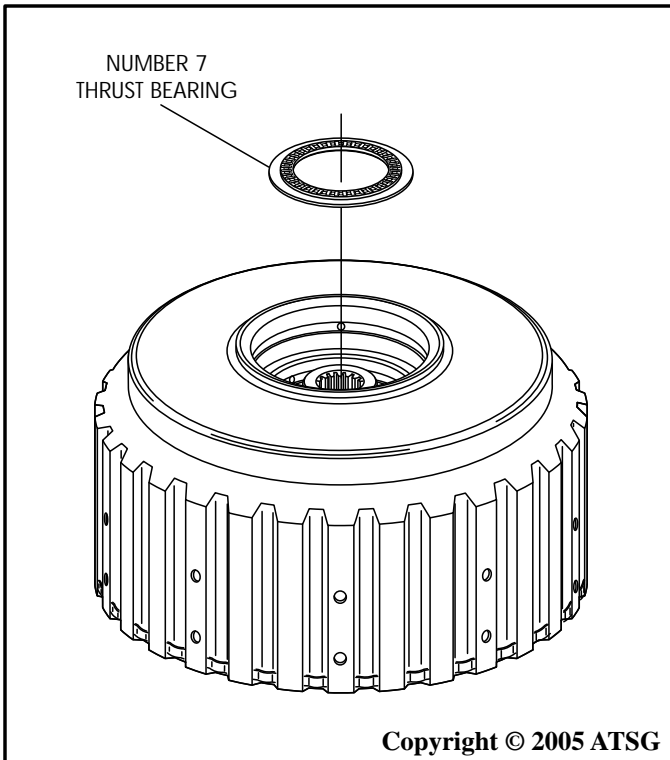

Figure 92
29. Turn the overdrive/reverse clutch housing over as shown in Figure 92.
30. Install the number 7 thrust bearing in direction shown in Figure 92, and retain with a small amount of Trans-Jel®.